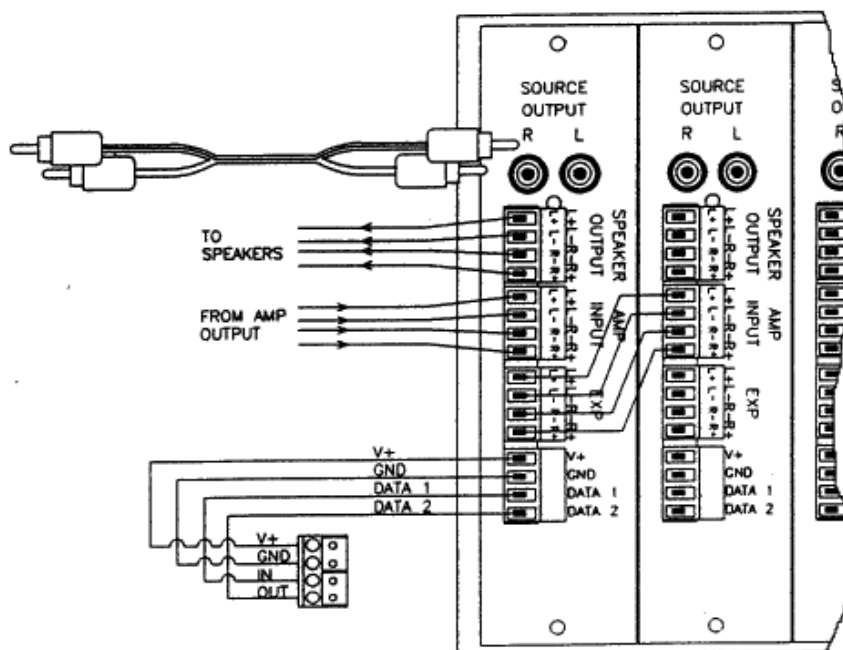

Figure 7
- 1) Connect the amplifier **AUX** or **Tape Line Input** to the **SOURCE OUTPUT** of the zone card. This connection will allow the source selected in the zone to be amplified by the amplifier (Figure 7).
- 2) The **Speaker Output** of the amp should be connected to the **AMP INPUT** connector of the zone card. The input polarity is important, be sure to follow the labelling on the zone card (Figure 7).
3) The Speakers for the zone wire to the SPEAKER OUTPUT on the Zone card (Figure 7).
4) If a keypad is being installed for the zone card it should be wired as shown in Figure 7. Note the keypad IN and OUT connections wire to the zone cards DATA 1 and DATA 2 connections respectively.
2a) Wire from the EXP connector of the previous zone card to the AMP INPUT connector of the current zone card (Figure 7).
3a) The Speakers for the zone wire to the SPEAKER OUTPUT on the Zone card (Figure 7).
4a) If a keypad is being installed for the zone card it should be wired as shown in Figure 7. Note the keypad IN and OUT connections wire to the zone cards DATA 1 and DATA 2 connections respectively.